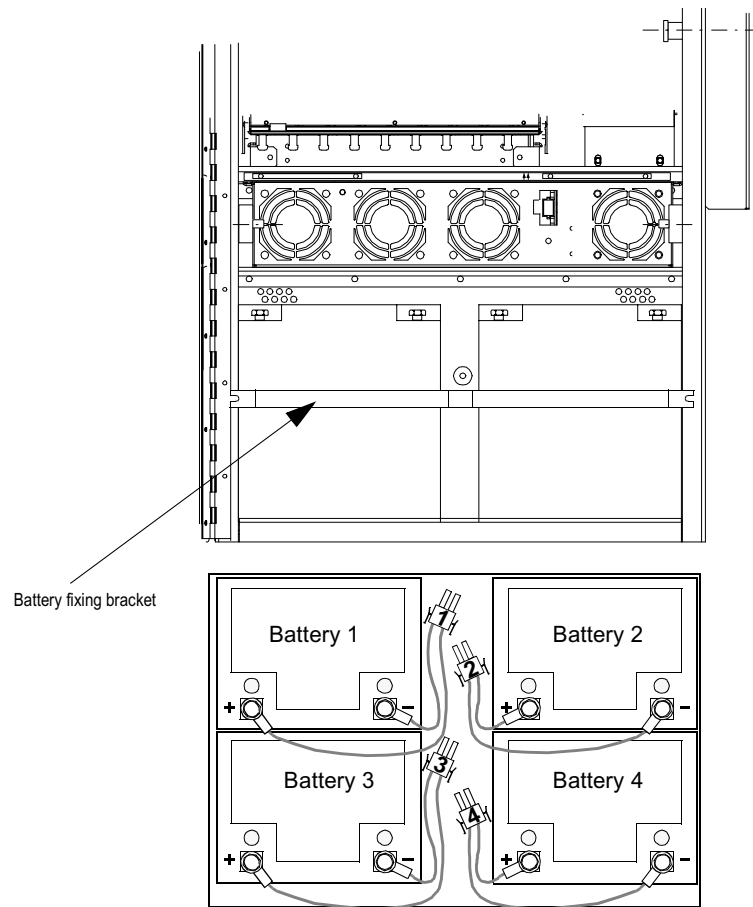

Figure 7-5 Battery arrangement (top view)
Figure 7-5 illustrates the arrangement for the 4 IR-30EC batteries. The battery compartment is located in the lower part of the ONU housing.
- Step 5 Position the first battery (No. 1) with its terminals facing to the front in the rear left corner of the battery compartment, as shown in Figure 7-5. Move the 2-pin battery assembly to the right.
- Step 7 Repeat with batteries No. 3 and No. 4 as shown in Figure 7-5.